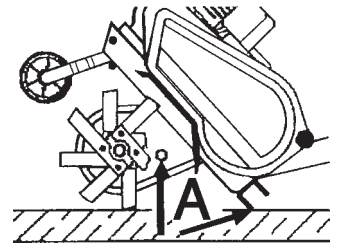

Fig. 7
- a) Loosen screw cap (Fig. 7).